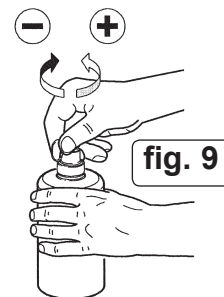

fig. 9
- 4.3.2. The washer is now ready for use. Detergent concentration can be adjusted using the knob on top of detergent bottle, see fig. 9.
- 4.4.3. To wash down with plain water, close the detergent control knob, see fig. 9.